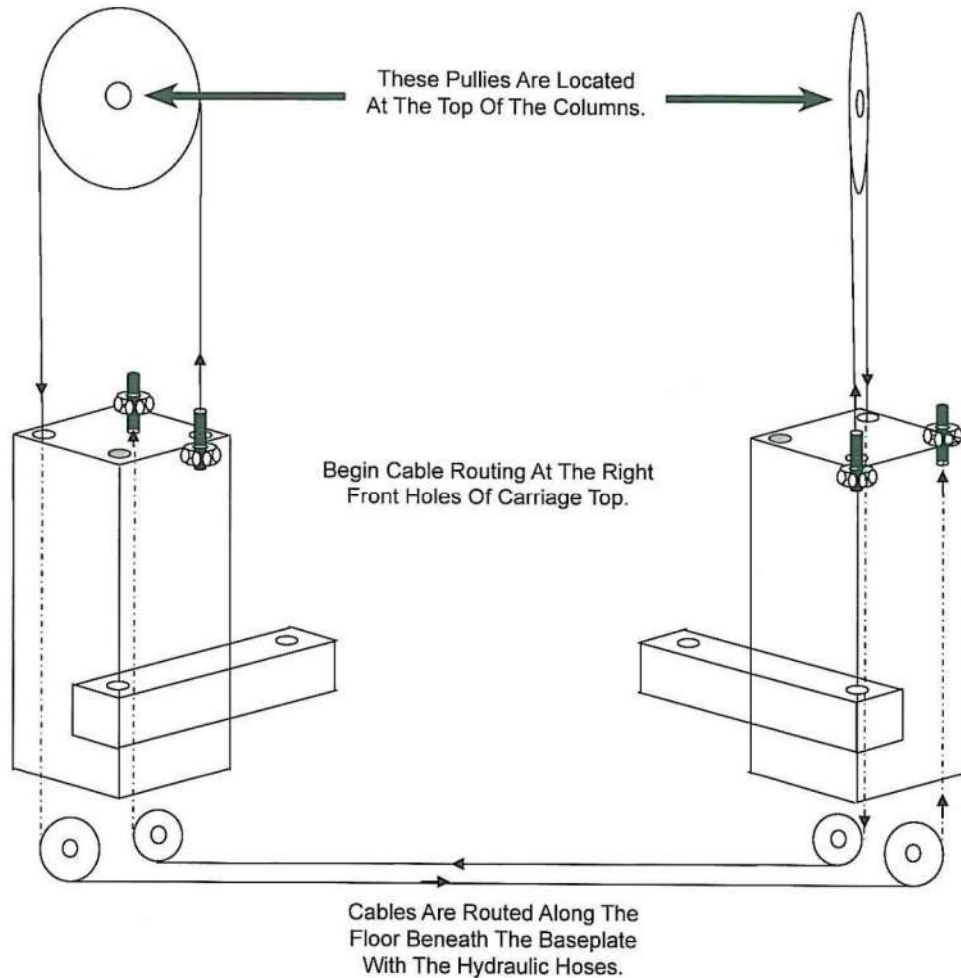

Figure 4.
- Take the threaded end(end without nut) and run it up inside the carriage through the front hole on the right side of the carriage. See figure 4 for cable routing. **Do not tighten cables at this time. Just start them on the treads.**